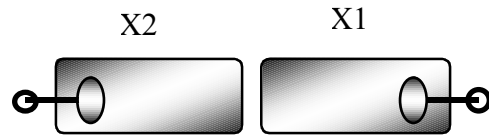

Figure 4-1
- Referring to Figure 4-1, insert bare wires into the grounding holes provided near X1 and X2. Fold each wire over the top of the crystal and solder it on top. Keep soldering time below 5 seconds at a time; if it takes longer, your iron may not be hot enough, or your iron tip may not be making good contact with the crystal can. Solder and trim the wires on the bottom of the board.